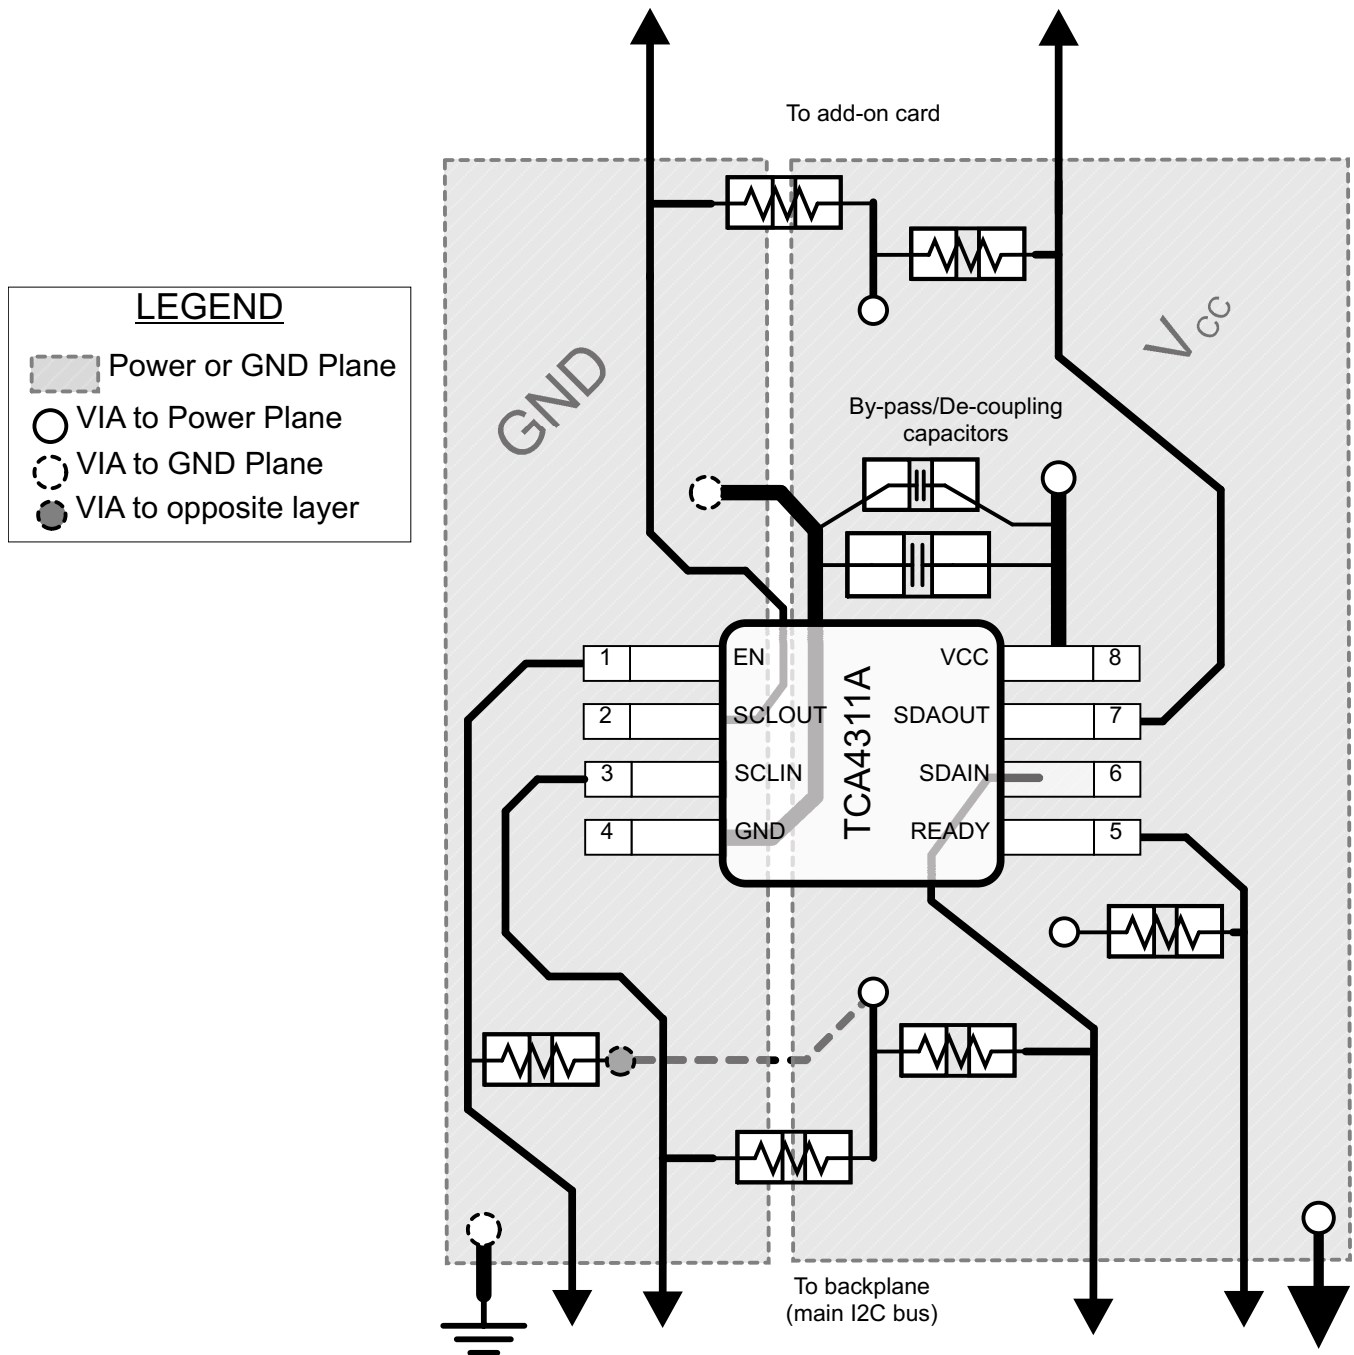

Figure 16. Package Layout
In all PCB layouts, it is a best practice to avoid right angles in signal traces, to fan out signal traces away from each other upon leaving the vicinity of an integrated circuit (IC), and to use thicker trace widths to carry higher amounts of current that commonly pass through power and ground traces. By-pass and de-coupling capacitors are commonly used to control the voltage on the VCC pin, using a larger capacitor to provide additional power in the event of a short power supply glitch and a smaller capacitor to filter out high-frequency ripple. These capacitors should be placed as close to the TCA4311A as possible. These best practices are shown in Figure 16.
The layout example provided in Figure 16 shows a 4 layer board, which is preferable for boards with higher density signal routing. On a 4 layer PCB, it is common to route signals on the top and bottom layer, dedicate one internal layer to a ground plane, and dedicate the other internal layer to a power plane. In a board layout using planes or split planes for power and ground, vias are placed directly next to the surface mount component pad which needs to attach to VCC or GND and the via is connected electrically to the internal layer or the other side of the board. Vias are also used when a signal trace needs to be routed to the opposite side of the board, shown in Figure 16 for the VCC side of the resistor connected to the EN pin; however, this routing and via is not necessary if VCC and GND are both full planes as opposed to the partial planes depicted.